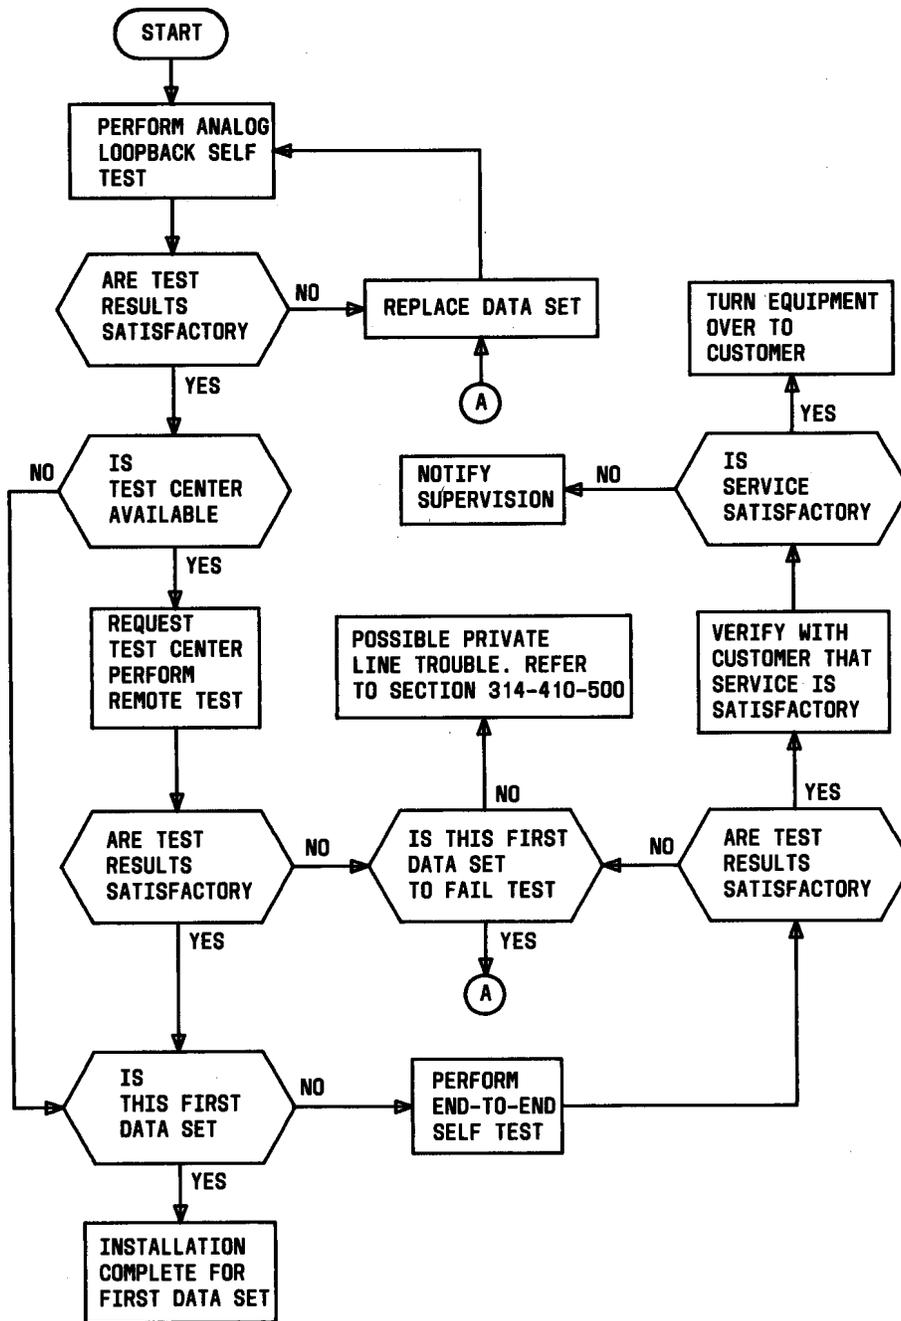
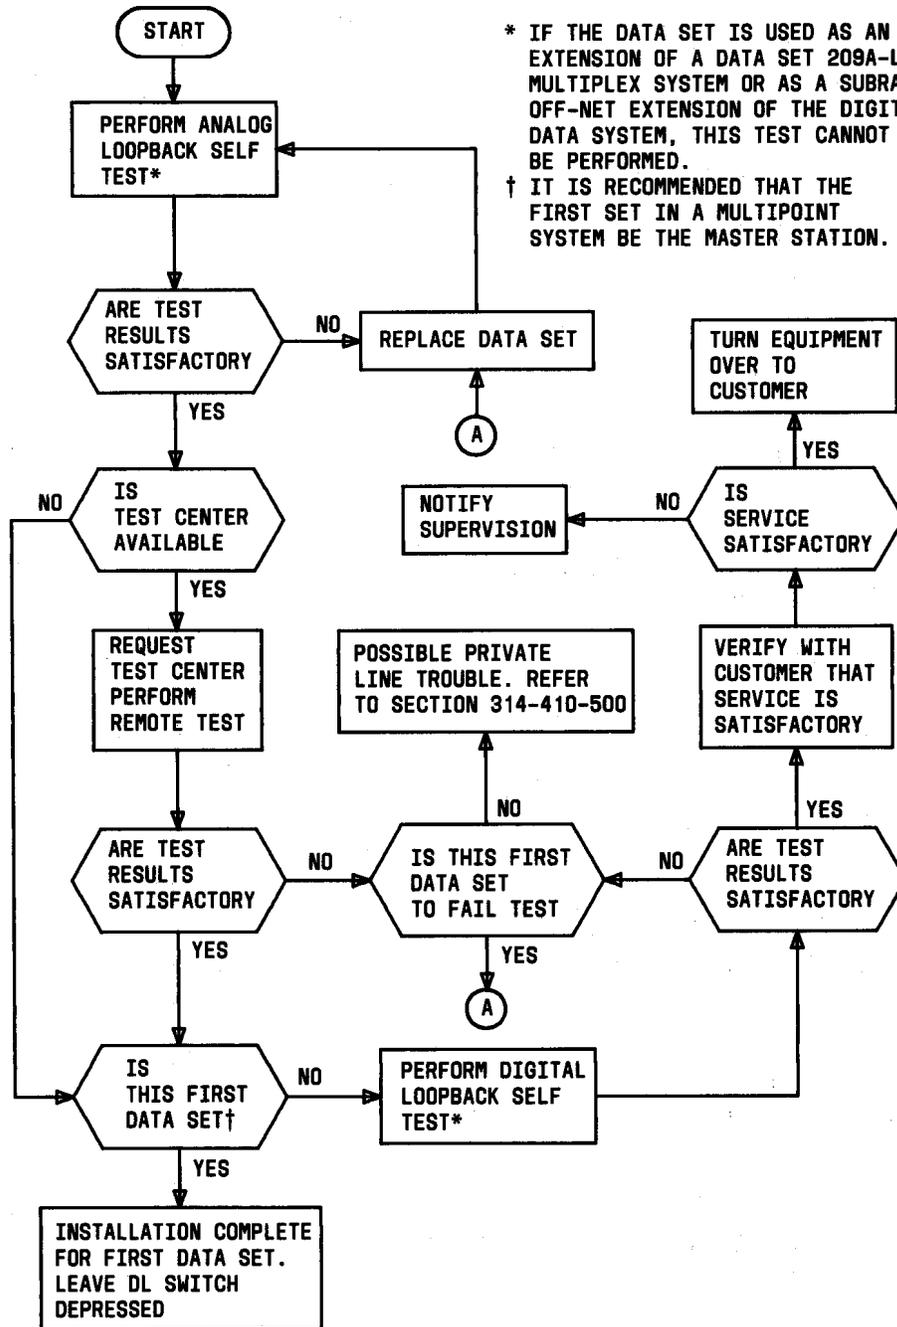

Fig. 2—Installation Test Sequence (2-Wire Private Line)
Fig. 3—Installation Test Sequence (4-Wire Private Line)
2.02 Before proceeding with the tests, verify that the private line meets the requirements specified in Section 314-410-500. For a 2-wire private line, the installation test sequence is shown in Fig. 2. For a 4-wire private line, the installation test sequence is shown in Fig. 3.